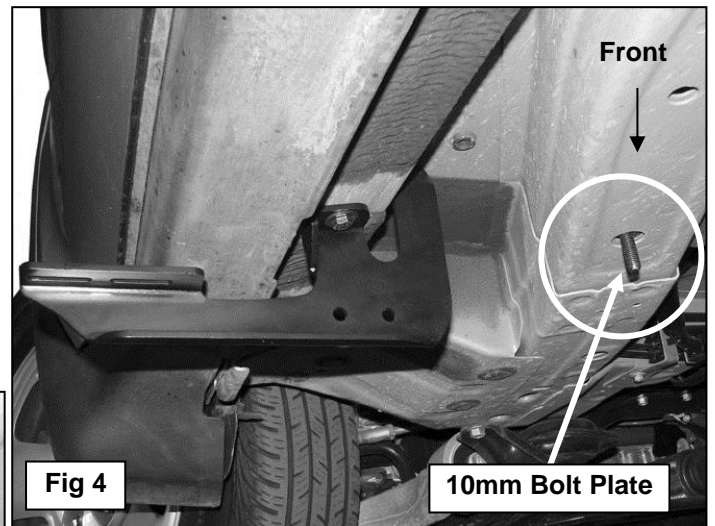

Fig 4
(2) 8mm Flat Washers
3. Select (1) 10mm Bolt Plate, (**Figure 3**). Insert the Bolt Plate into the factory hole in the bottom of the frame channel, (**Figure 4**). Rotate the Bolt Plate clock-wise 90-degrees or until it stops turning. **NOTE:** To help determine the correct inner mounting hole on the frame to use, hold the Support Bracket up to the back of the Front Bracket with the inner end lined up with the hole in the bottom of the frame channel, (**Figure 5**).